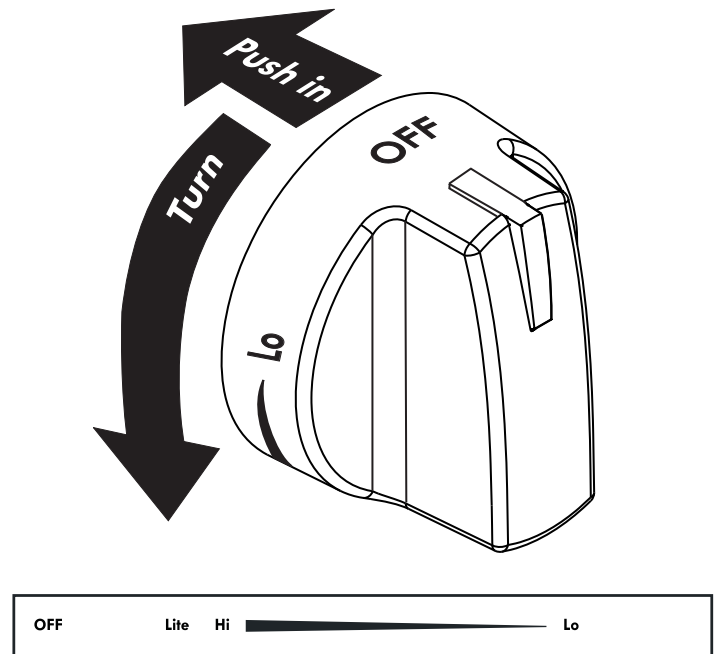

Figure 2 - Regular Burner Control
2. Push the surface control knob down and turn **counterclockwise** out of the OFF position (See Figure 2).